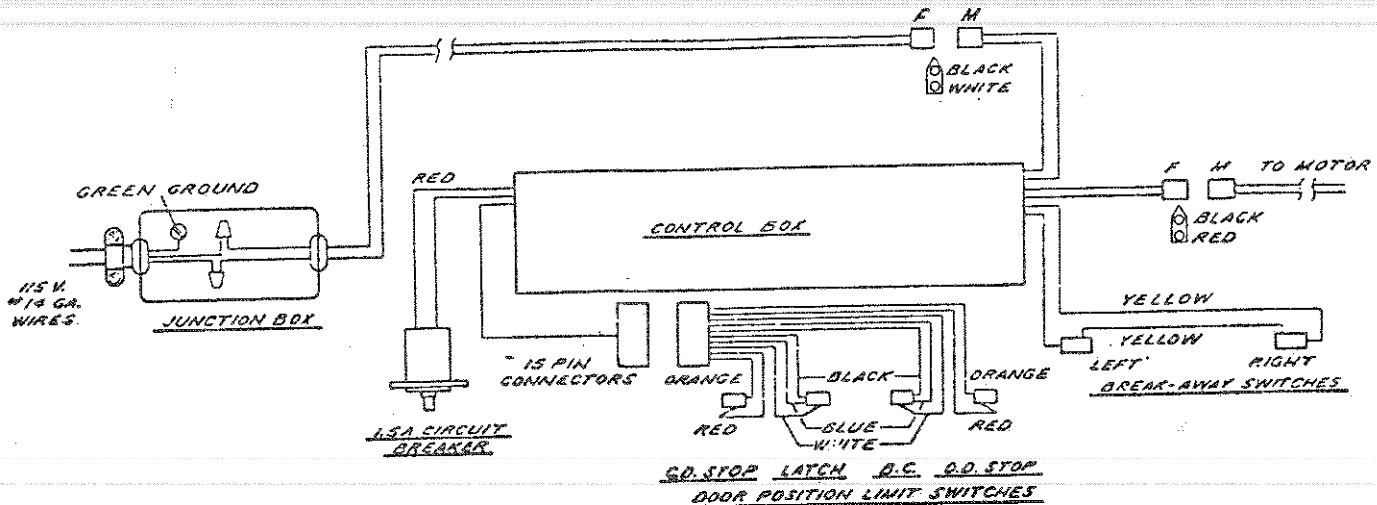

FIG. 27 Electrical connections.
1. Insert a 3-wire metal clad cable through the top hole at the end of the header (see FIG. 27)
2. Connect the male and female plugs of the wiring harnesses as shown in FIG. 27.